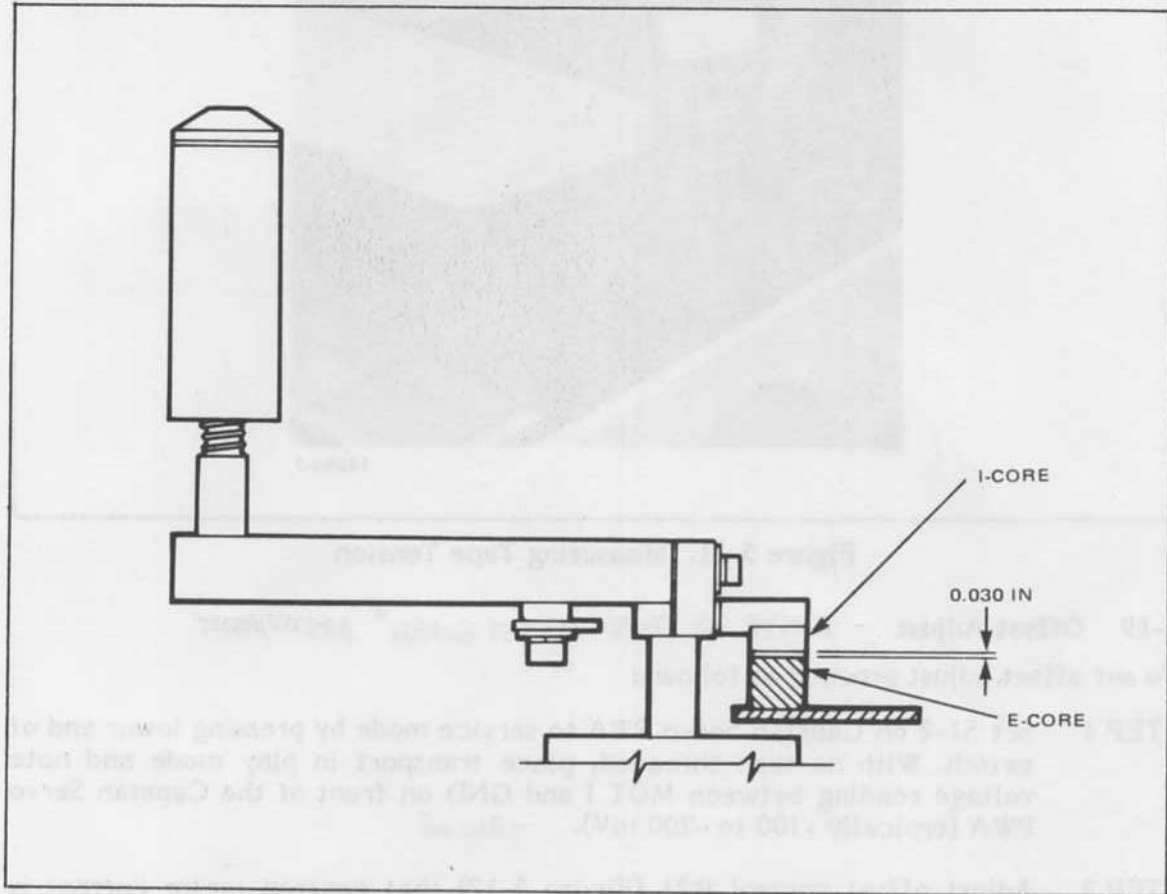

Figure 5-10. Tape Tension Arms I-Core/E-Core Locations
- STEP 7 Adjust R3 so associated tape tension arm I-core is centered directly over E-core (Figure 5-10).